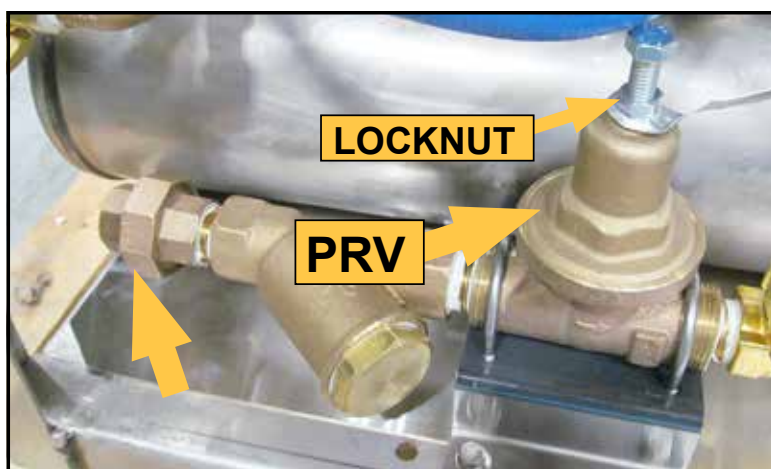

Fig. 7 - 3/4" NPT cold water supply connection
1. Connect the incoming water supply line to the line strainer located at the left rear corner of the machine base, (Fig. 7).
2. Loosen the lock nut, (Fig. 7) to adjust the pressure regulating valve, (PRV).